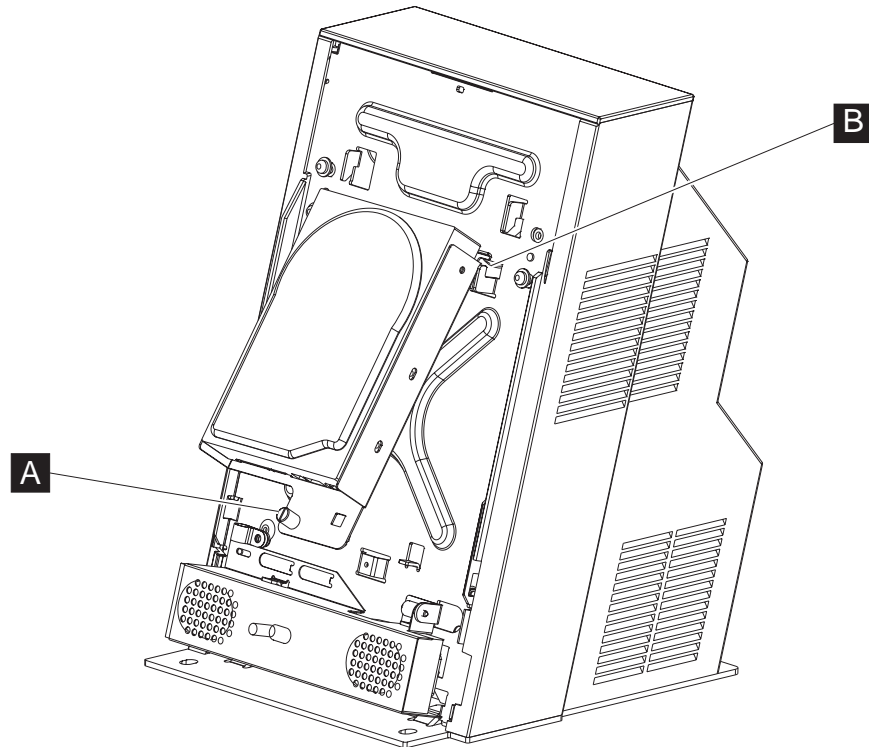

Figure 17. HDD installation. For clarity, this figure shows additional components removed; however you do not remove these to remove the HDD.
5. See Figure 17. Loosen the captive thumbscrew (**A**) and remove the HDD assembly by lifting it off of the hooks on the frame (**B**).